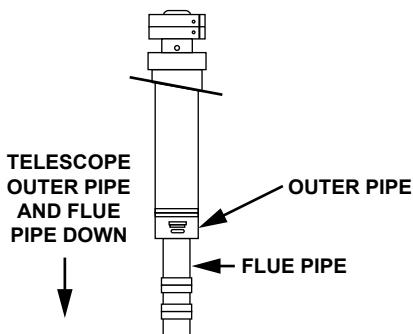

Figure 28: Roof Jack Placement
- Telescope down the outer pipe of the roof jack assembly to a length that will project at least 2" (5 cm) below the finished ceiling before installing the roof jack assembly. See Figure 28.